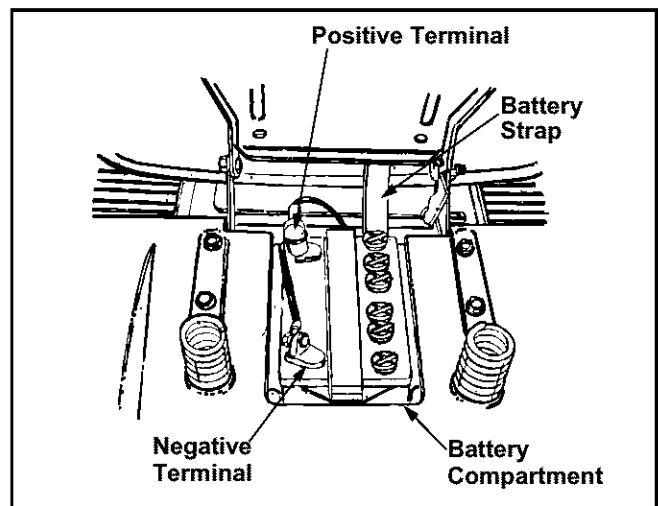

Figure 8
- Lift the seat. Make sure both the negative (black) cable and the positive (red) cable are routed up through the battery compartment. See Figure 8.